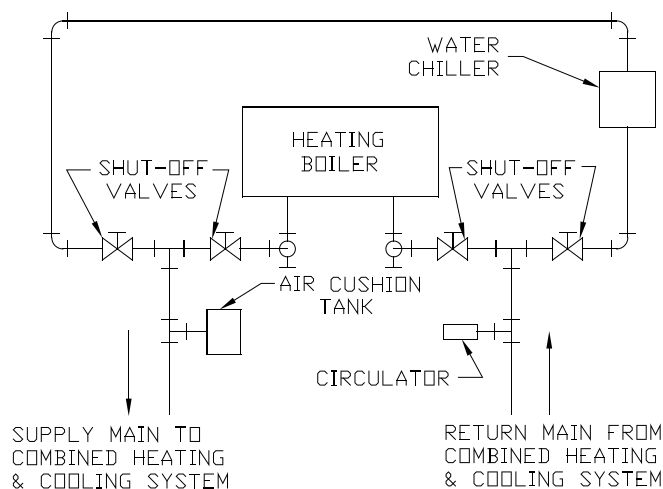

Figure 14: Recommended Piping for Combination Heating & Cooling (Refrigeration) Systems
- d. If this boiler is used in connection with refrigeration systems, the boiler must be installed so that the chilled medium is piped in parallel with the heating boiler using appropriate valves to prevent the chilled medium from entering the boiler, see Figure 14. Also, consult I=B=R, "Residential Hydronic Heating Installation and Design Guide".